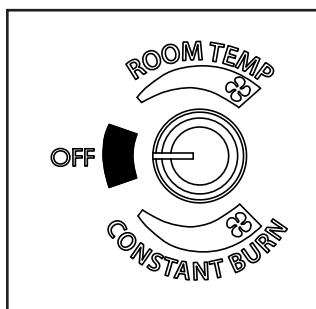

Figure 4.1
1. A room sensor is required for proper operation of this appliance in "Room Temp" mode. At this time, fill the hopper with pellets, insure the control is set to "OFF". Figure 4.1. Plug the power cord into a properly grounded, nearby outlet.